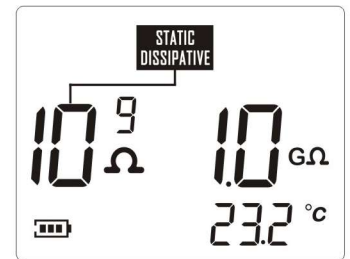

Figure 3
- c). For example: the resistance reading in Figure 3 is 10⁹Ω, 1.0GΩ, the measured material is anti-static material;